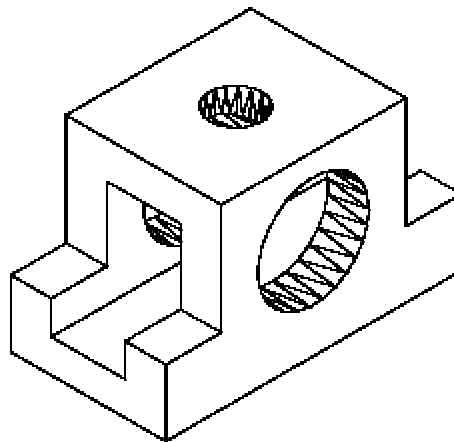

Figure 24-31 Final solid model for Example 1
15. Subtract this cylinder from the model. The final model should look similar to the one shown in Figure 24-31.